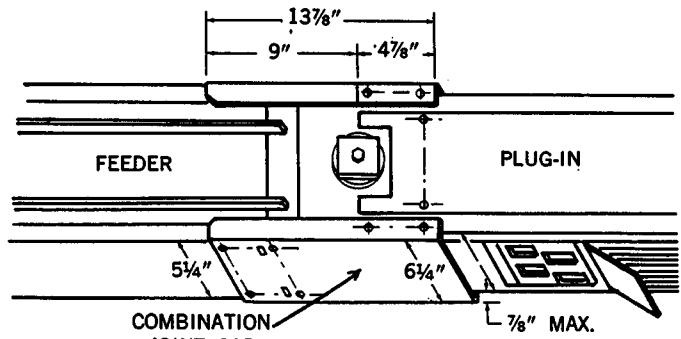

FIGURE 8
2. The joint cap required between a plug-in straight length and feeder type busway piece is 13 $\frac{3}{8}$ " long, and these joint caps will be assembled to the feeder piece when shipped from the factory. See Figure 8. The joint cap between two feeder busway pieces is 18" long.